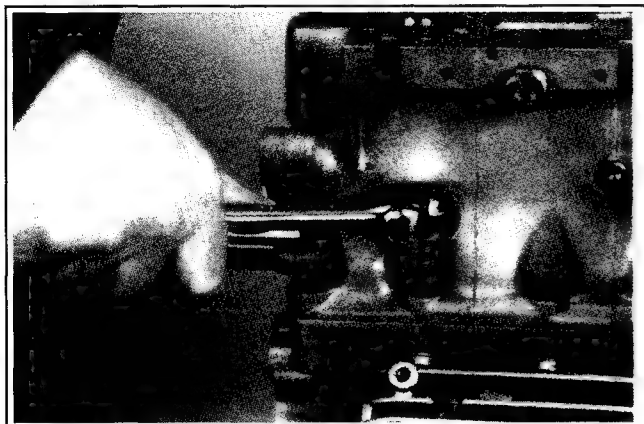

Figure 9-42. Removing the M8x40 mm Hex. Flange Screws.
2. Using the engine stand (the largest piece in set 28 761 02, see Section 2, "Special Tools"), turn crankcase assembly upside down so that the lower half is on top. Remove the remaining 10 crankcase screws holding the crankcase halves together. PTO side has two 115 mm long screws; all others are 40 mm long. See Figure 9-42.